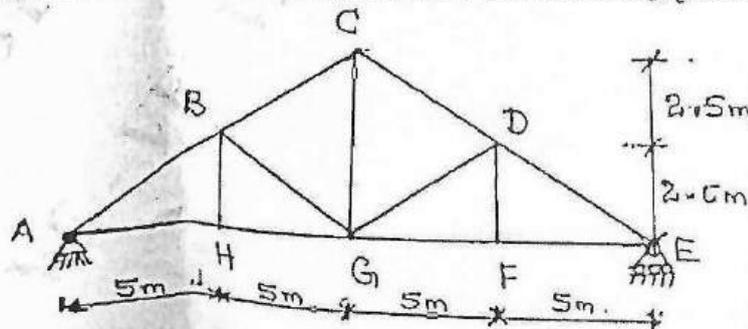

Fig.Q3
- 3 The centre line of a roof truss is as shown in Fig.Q3. The magnitude and nature of forces under service conditions are :